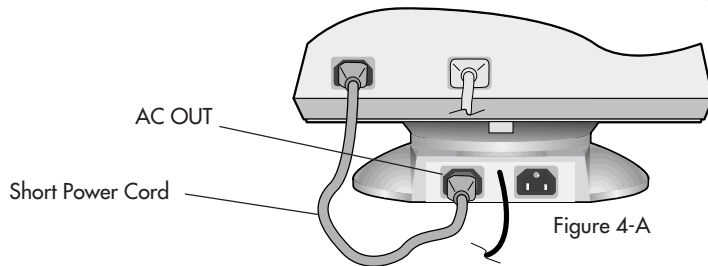

Figure 4-A
**STEP 4-A.** Connect one end of the short power cord to the connector on the audio base and the other end to the monitor (**Figure 4-A**).
**STEP 1-B.** Connect one end of the short power cord to the connector on the audio base and the other end to the monitor (**Figure 4-A**).